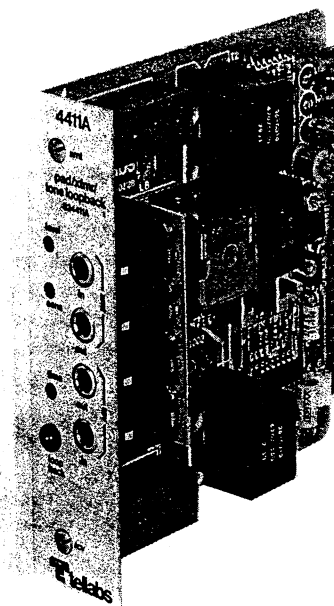

figure 1. 4411A Pad/Transformer/Tone Loopback Module
1.01 The 4411A Pad/Transformer/Tone Loopback module (figure 1) provides adjustable pads and impedance matching transformers for attenuation and dc isolation of both the transmit and receive channels of a metallic 4wire VF transmission facility. In addition, the 4411A provides tone- or dc-activated, adjustable-level loopback of the 4wire facility.